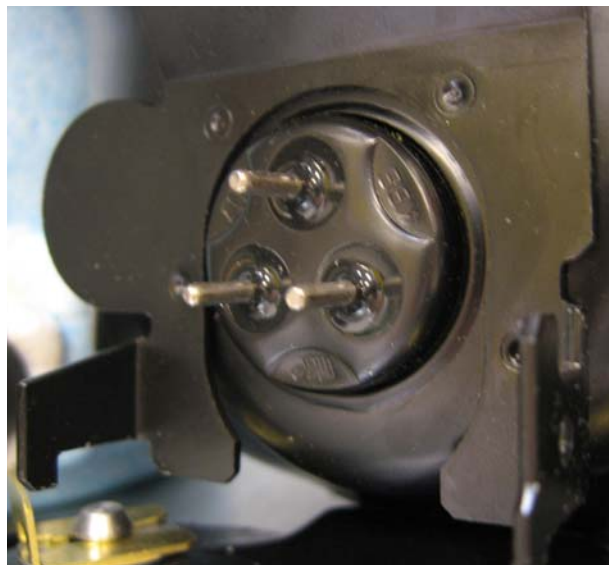

Figure 4
- STEP 6:** Remove the thermal protector by pulling it away from the compressor. (See Figure 4).